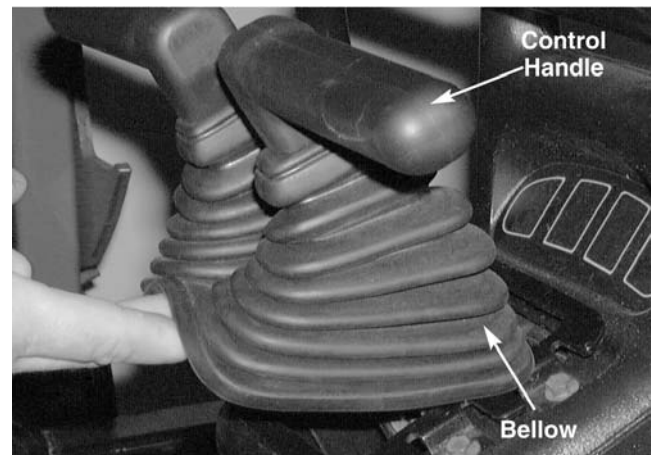

Figure 10-1.
4. Slide the control bellow upward (towards the drive control handles. See Figure 10-1.